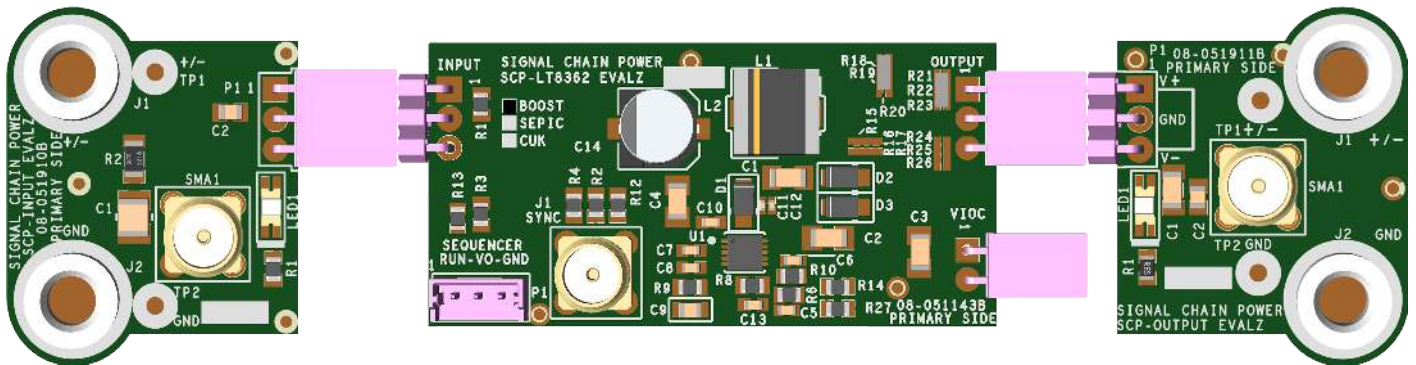

Figure 2. Proper Measurement Equipment Setup (Use SMA connectors for Measuring Input or Output Ripple)
2. Connect the SCP-INPUT-EVALZ and SCP-OUTPUT-EVALZ boards to the SCP-LT8362-B-EVALZ (refer to Figure 2) and connect the input board to a voltage source, V_{SOURCE} . Connect the output board to a voltmeter or dynamic load. Slowly raise the input voltage until the SCP-LT8362-B-EVALZ powers up into regulation and sweep V_{SOURCE} through the desired range of operation.